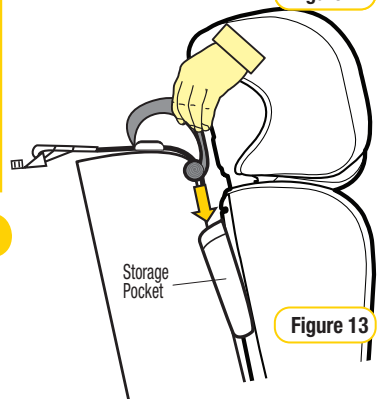

Figure 13
**Step 7:** Roll up and store any excess webbing, from the top tether strap, in the storage pocket provided on the restraint (refer to Figure 13).
After correctly installing the restraint in your car, roll up and place any excess tether strap in the storage pocket provided (refer Figure 13).